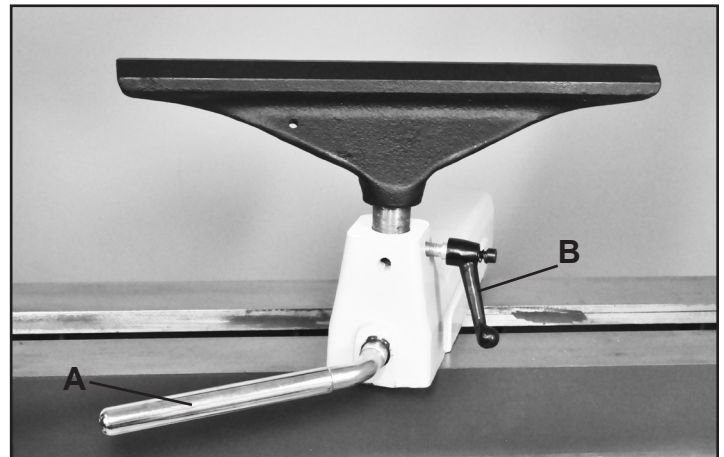

FIG. 8
11. **TOOL REST BODY LOCK HANDLE:** (FIG. 8, A) This cam action lever handle locks the tool rest body down in position on the lathe bed. Unlock handle to position the tool rest in any location along the lathe bed. Tighten the handle when the tool rest is properly located for safe turning of the workpiece.
12. **TOOL REST LOCK HANDLE:** (B) Locks the tool rest in position for supporting your tools during turning. Unlock the handle to adjust the tool rest at a specific angle, or height. Tighten handle when properly positioned.